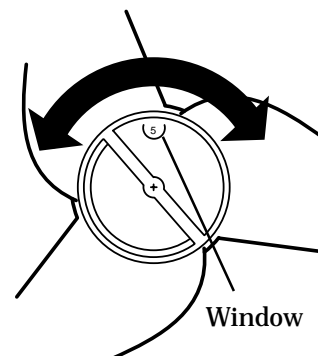

Fig. 7
1. You may select the desired pitch of the propeller by turning the adjustment knob located at its center. First, sight through the grooved slot at the outer edge of the knob to find the numbered pitch settings (1 through 9). You may need to rotate the propeller until the number comes into view (Fig. 7).